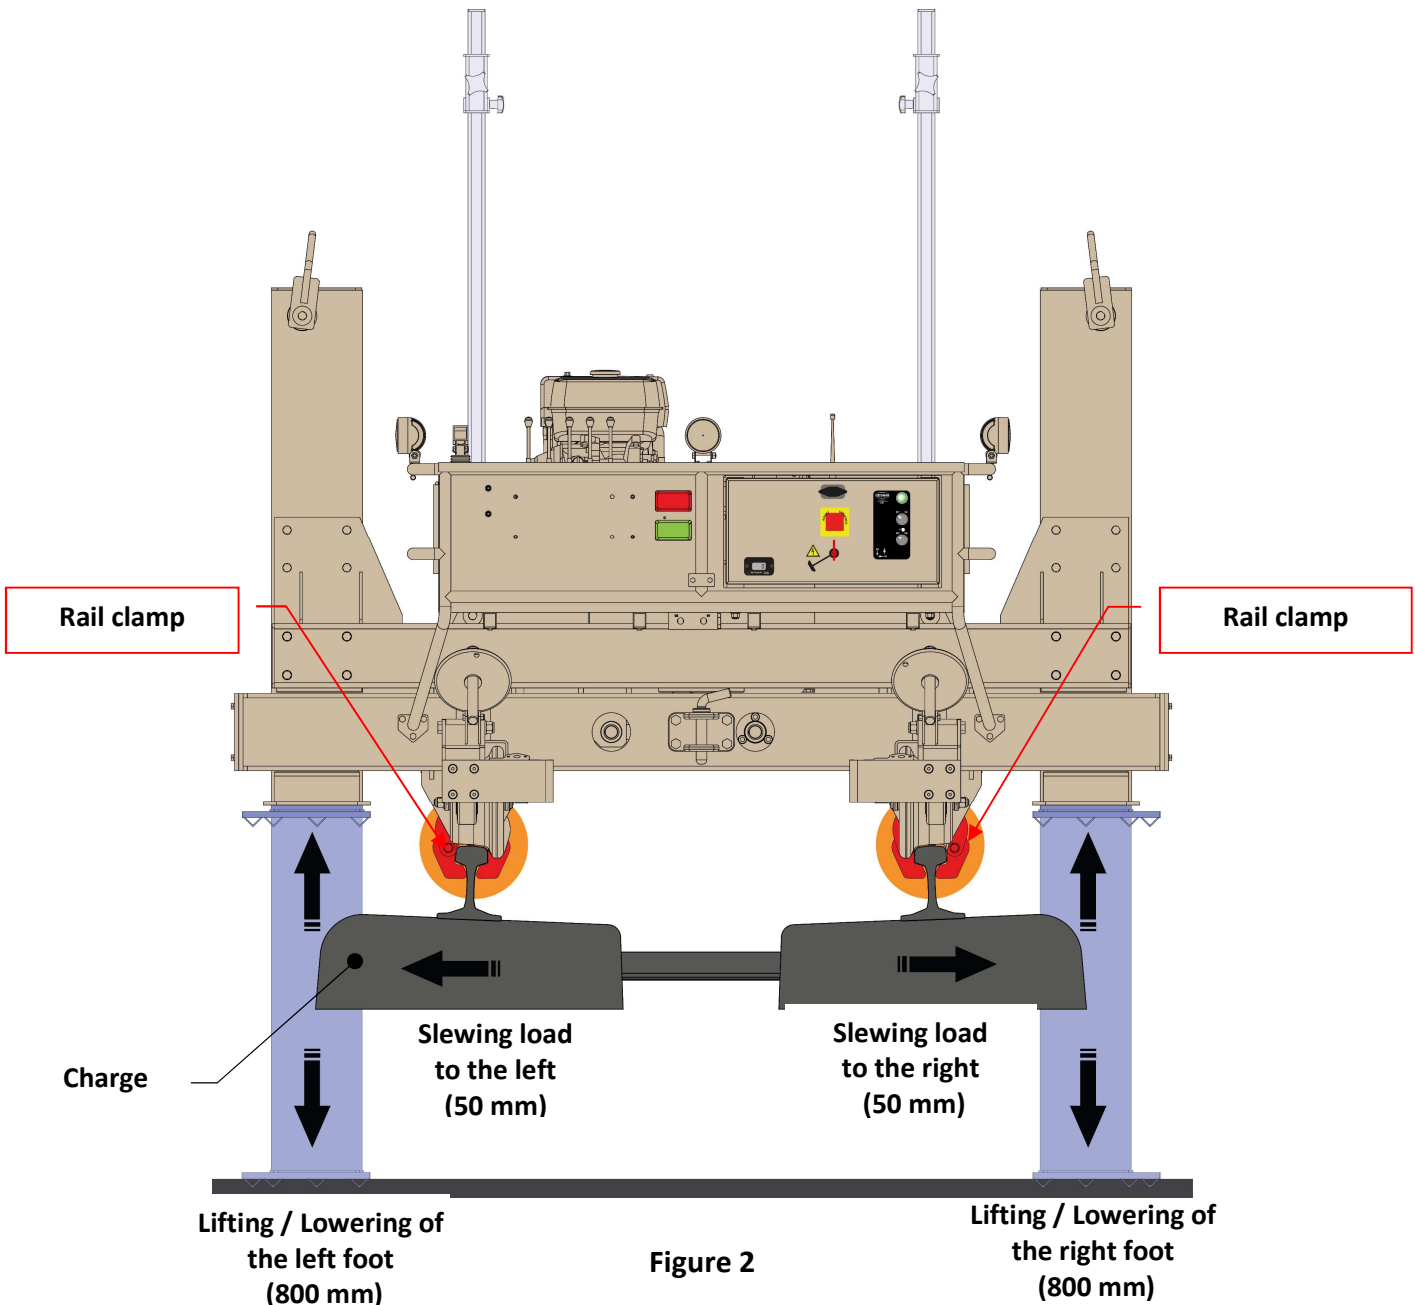

Figure 2
- The fastening of the load is done with 2 clamps (Figure 2 below).